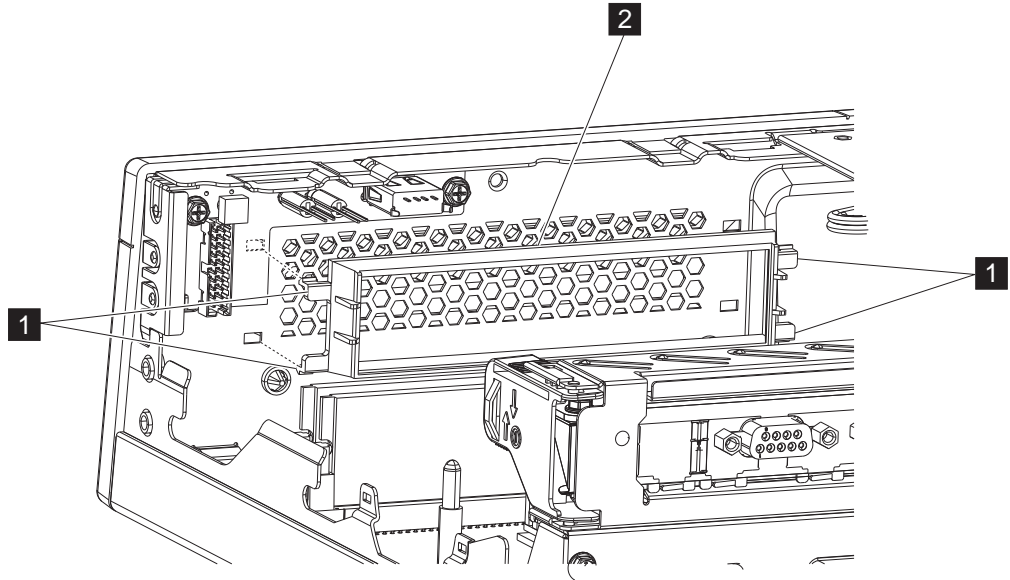

Figure 29. Removing the hard drive air duct a Model x4x
Figure 29 is a diagram of the hard disk drive air duct for the IBM SurePos 300 for Model x4x.
3. Using a small flat blade screw driver, unlatch the snap latches **1** on the left and right sides of the hard drive air duct and remove the air duct **2** (see Figure 29).